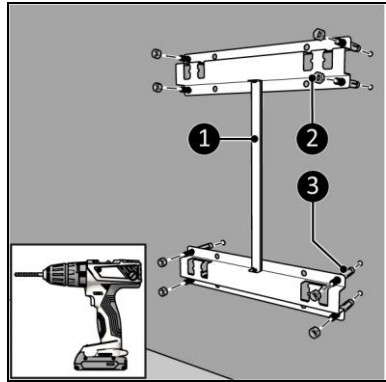

Figure 8
1. Place the bracket against the wall, with the bracket openings at the top and mark the eight holes (Figure 8).
3. Place the anchor bolts (Figure 8, pos. 3).
4. Tighten the wall bracket (Figure 8, pos. 1) to the wall with the eight nuts (Figure 8, pos. 2).